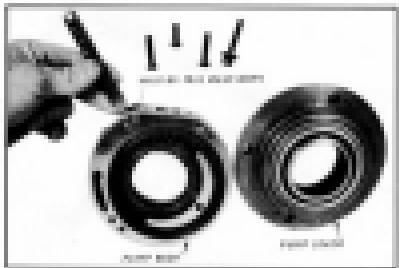

Fig. 473. Holding By-Pass Valve in Place
2. Place new seal into pump cover having step side up and drive seal into place with use of tool J-2170. (Fig. 473)